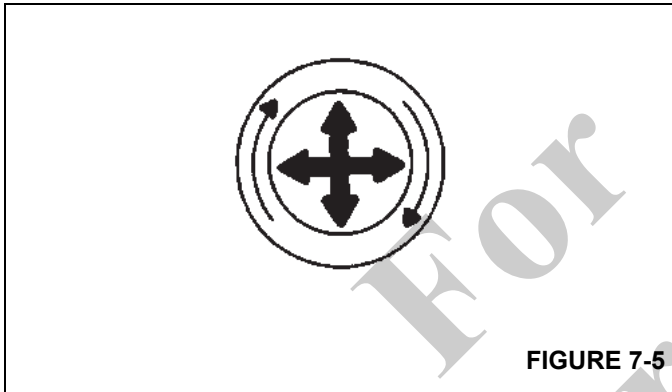

FIGURE 7-5
1. Unlatch the latches, open the air cleaner body and withdraw the element as follows (Figure 7-5):